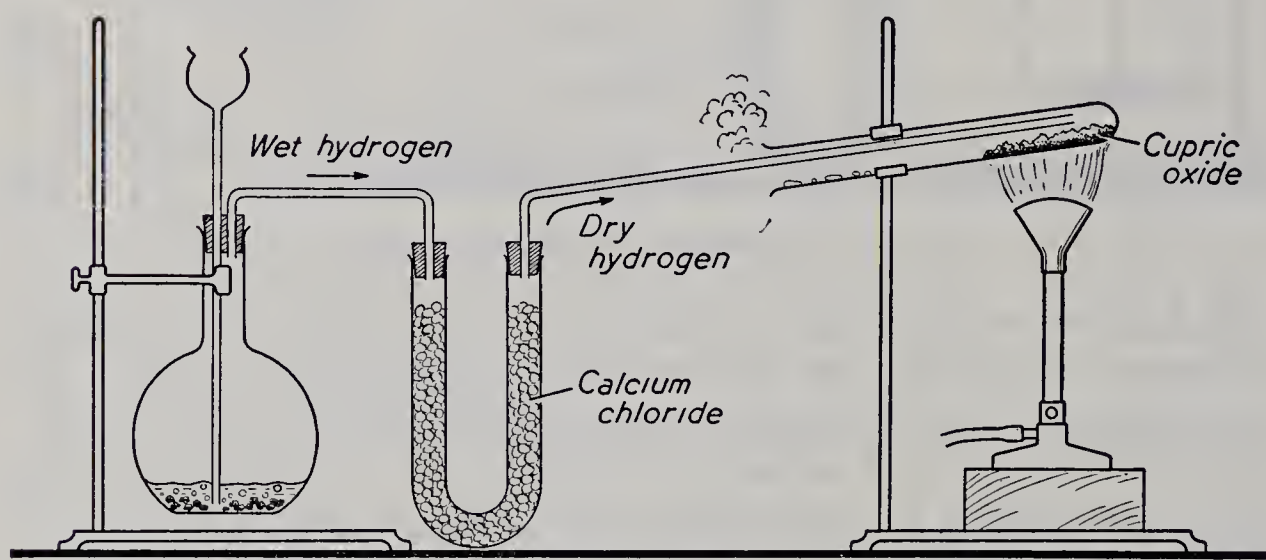

Fig. 35. Reducing cupric oxide with dry hydrogen.
1. Arrange the apparatus as in Fig. 35. Spread the cupric oxide along the tube evenly and make certain that the glass delivery tube does not become clogged when placing it in the test-tube. Let the reaction continue a sufficient length of time to drive the air out of the apparatus and then bring the flame under the part